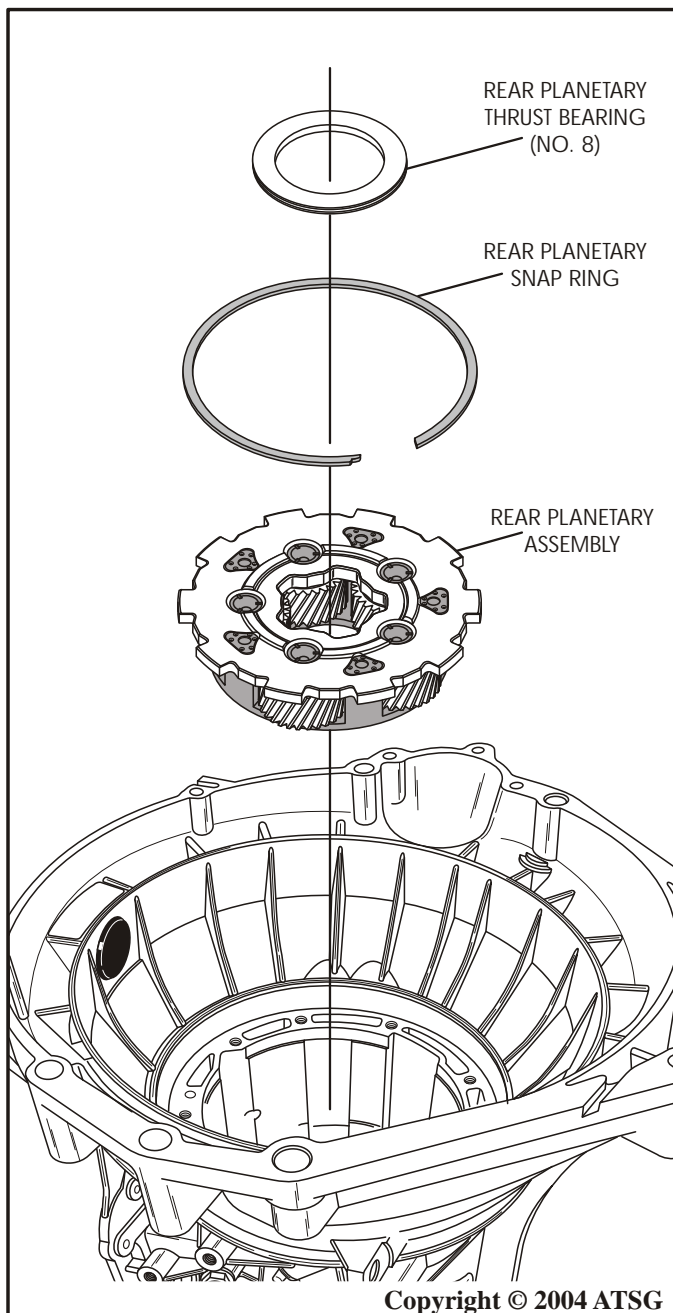

Figure 47
50. Remove and tag for I.D. the rear planetary thrust bearing (No. 8), as shown in Figure 47.
51. Remove the rear planetary retaining snap ring from reverse drum, as shown in Figure 47.
52. Remove the rear planetary carrier from the reverse drum, as shown in Figure 47.